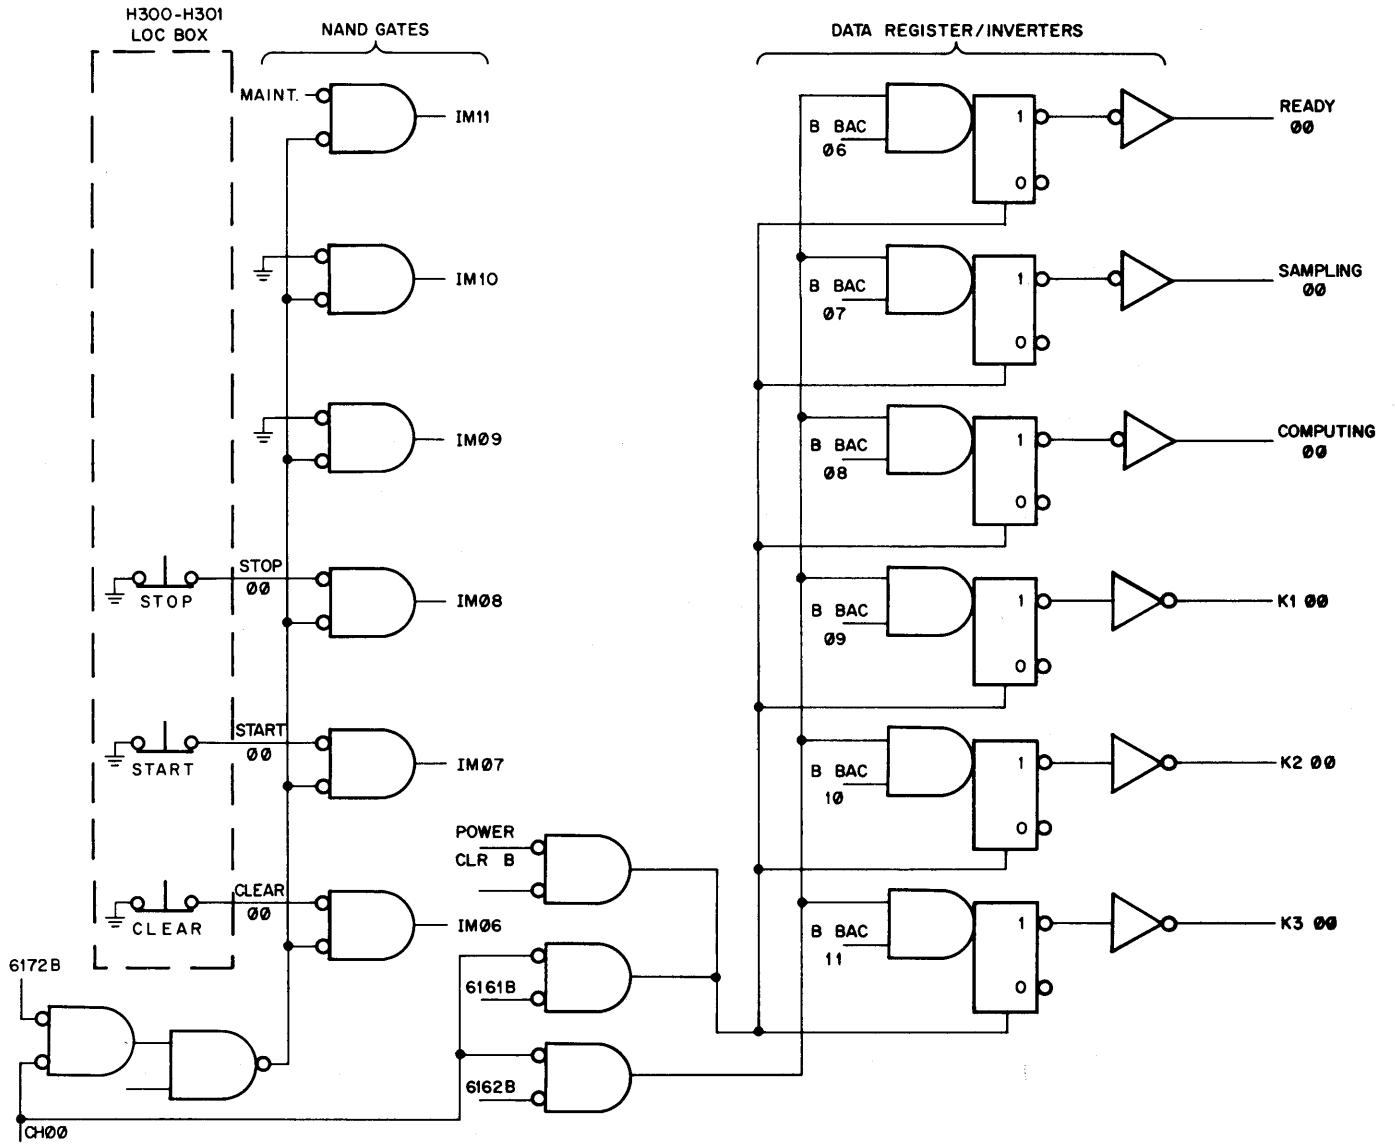

Figure 3-7 AF17 LOC Control Logic, Simplified Diagram
Activation of the H300 or H301 LOC relays and lights for a particular channel is dependent upon the selected channel in this matrix and the accumulator binary bits occupying positions 06 through 11 (see Figure 3-7).
3.3.1 Local Operator Console Control Logic (See Figures 3-7, 6-8, and 6-9)